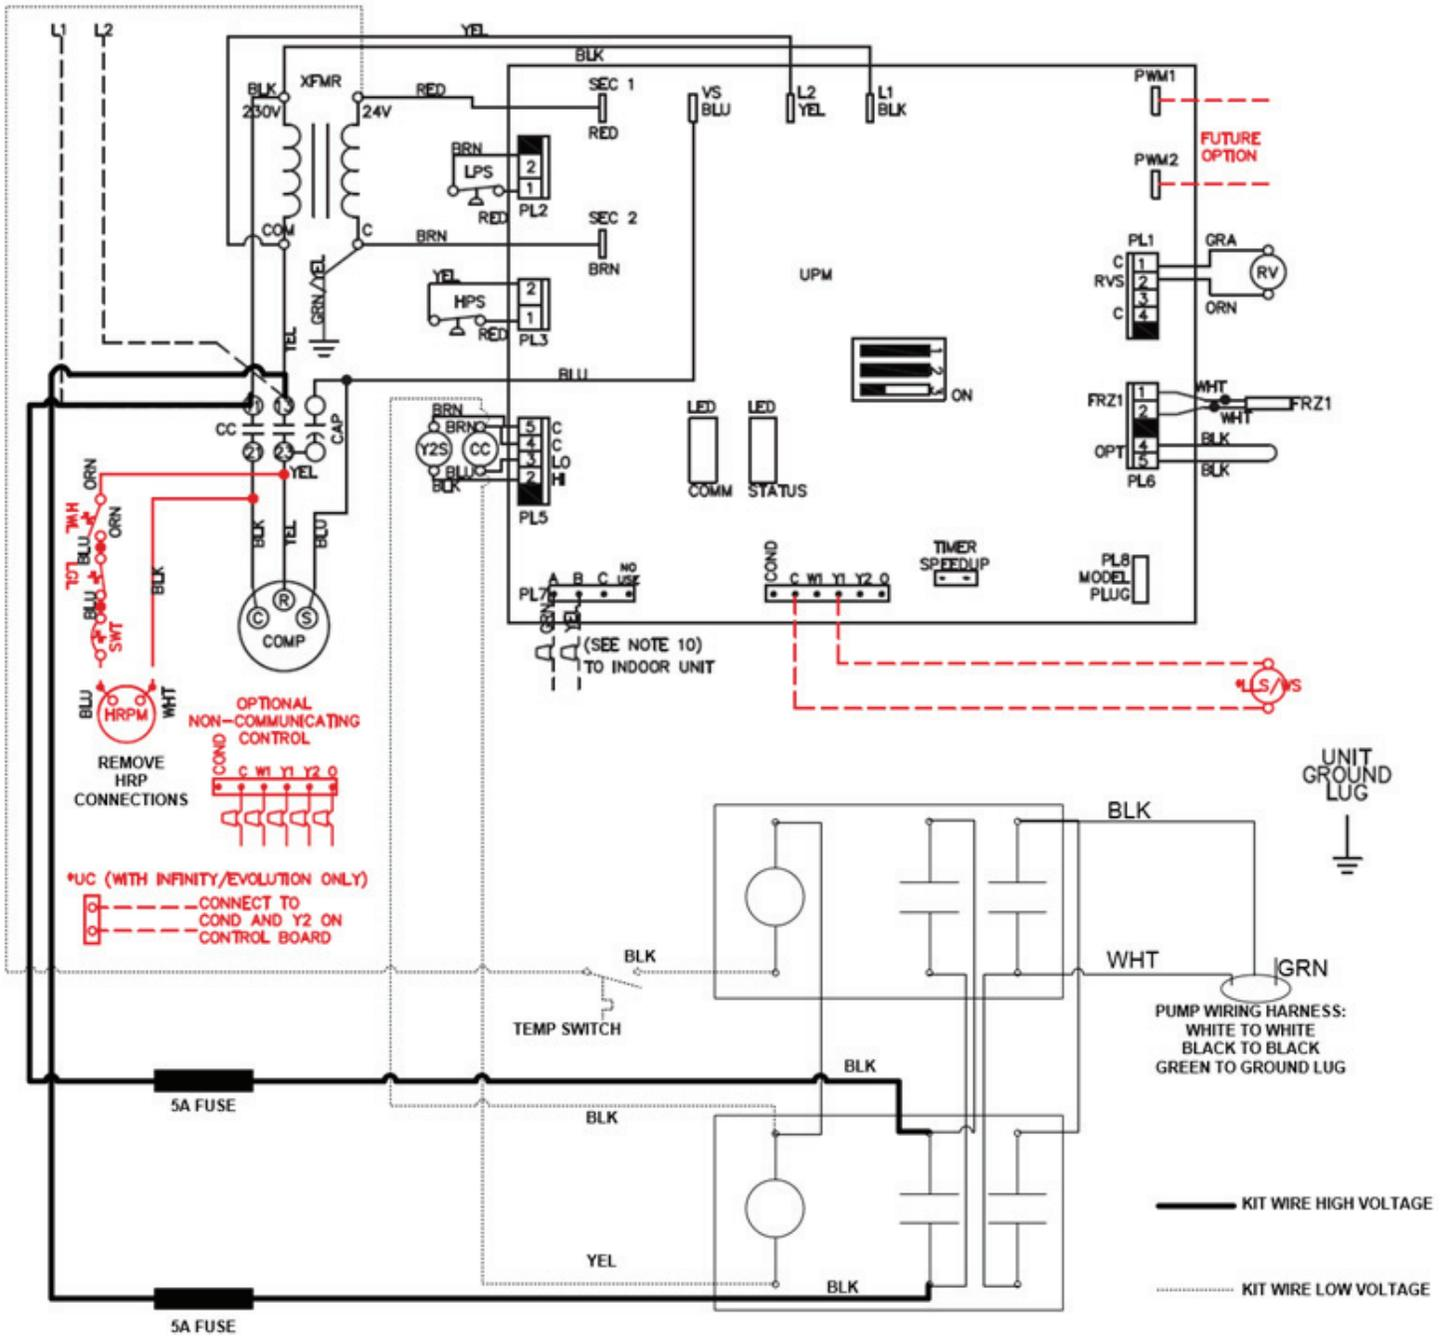

Fig. 11 — GZ Outdoor Flow Center Kit Wiring
- b. Reattach the lower flow center cover to the panel (removed in step 4C). Fig. 11.